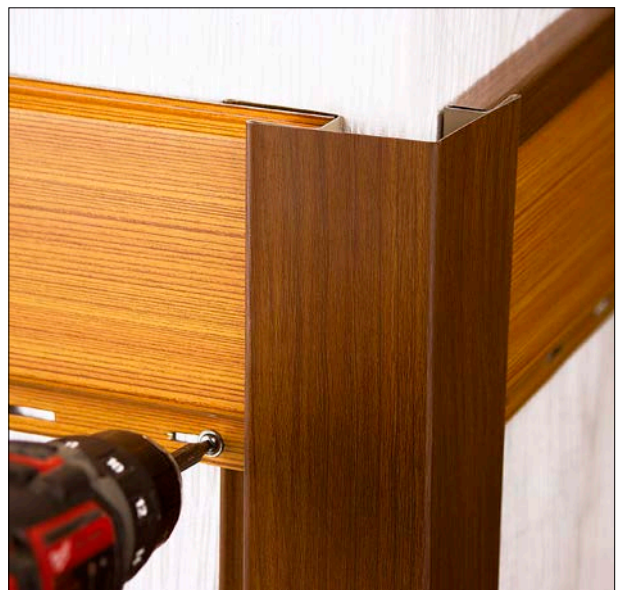

Fig.59
Step 2: Set the standard panels in place and fasten (Fig.59).